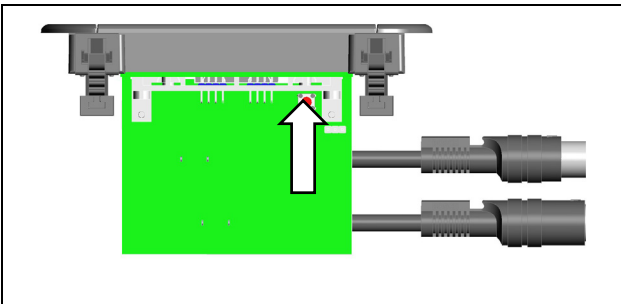
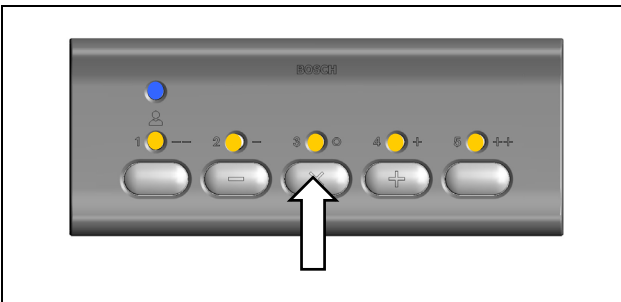
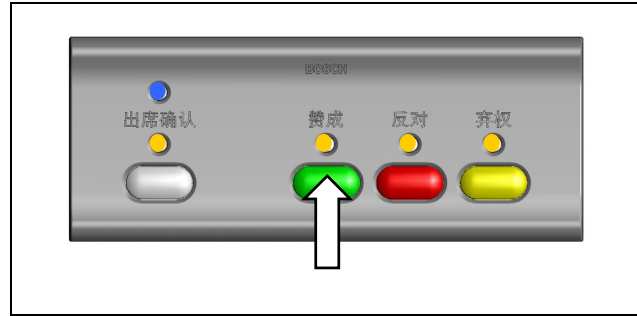

Figure 2.13 De-Initialization LBB 4141/xx Voting Unit
Figure 2.14 Initialization LBB 4141/00
Figure 2.15 Initialization LBB 4141/50
To de-initialize an individual unit, press the de-init/init switch shortly (see Figure 2.13). All LEDs of the de-initialized unit illuminate. To de-initialize and initialize an individual unit at the same time, keep the de-init/init switch pressed for a longer time.
To initialize an individual unit, press the button in the middle of the voting unit (see Figure 2.14 and Figure 2.15) or the de-init/init switch (see Figure 2.13). The units LEDs go out. Once the unit is recognized in the system, the unit active indicator illuminates. Repeat this procedure for all active units installed in the system one by one.
Press the de-init/init (see Figure 2.13) switch while connecting a replacement unit. The unit will be de-initialized and initialized during connection. Once the unit is recognized in the system, the unit active indicator illuminates.
1. Press the button in the middle of the voting unit shortly (see Figure 2.14 and Figure 2.15). In case all LEDs of the unit illuminate, the unit is de-initialized and the problem was caused by an address conflict. Press the button in the middle of the voting unit in order to initialize the voting unit. Once the unit is recognized in the system, the unit active indicator illuminates and the address conflict is solved.